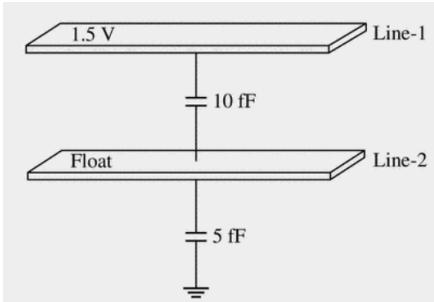

Figure P4.1
- 4.1** Consider the static situation in the **Figure P4.1** where line-1 is at 1.5 V and line-2 is floating. What is the induced voltage on line-2 when Line-1 makes a $0 \rightarrow 1$ transition from GND to 1.5V and if Line-2 was initially at 0.5V (and floating)?